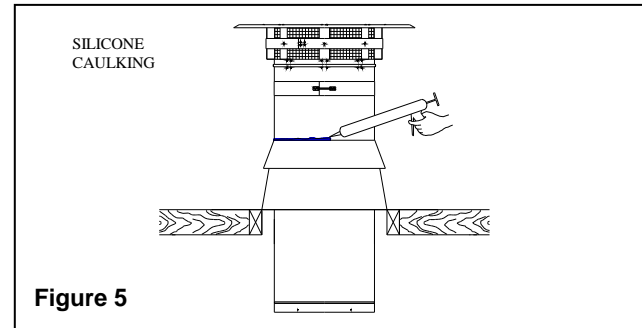

Figure 5
- 7 Place the storm collar over the chimney and the flashing. Tighten it with the bolt supplied making sure the joint is properly caulked (Figure 5).